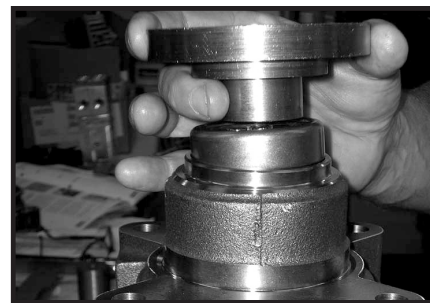

Figure 29
Torqmotor™ housings require the use of the bearing mandrel shown in figure 2 to press bearing (19) into the housing to a required depth of .290/.310 inches (7.37/7,87 mm) from the outside end of the bearing counterbore. SEE FIGURE 29.